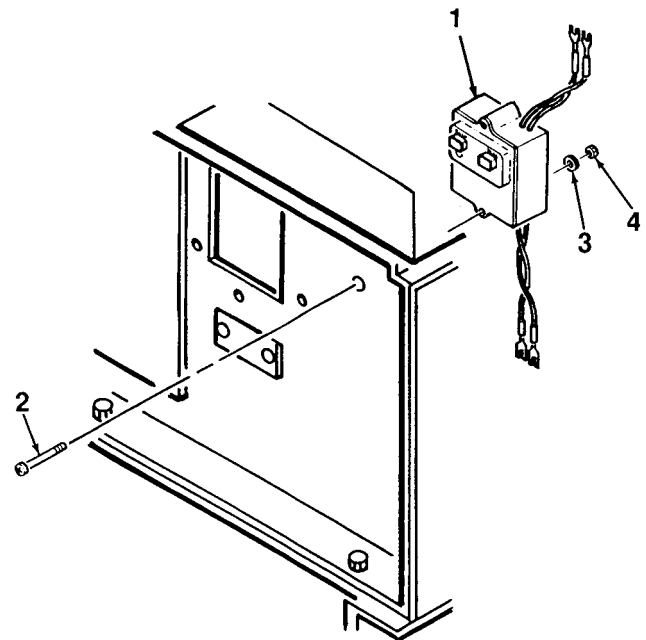

Figure 4-22. Ground Fault Circuit Interrupter
2. Tag and disconnect ground fault circuit interrupter (1, Figure 4-22) wiring from terminal block TB4.
3. Remove ground fault circuit interrupter (1) from control box by removing screws (2), washers (3), and nuts (4).
1. Mate ground fault circuit interrupter (1, Figure 4-22) to back of control box. Secure using screws (2), washers (3), and nuts (4).
2. Connect ground fault circuit interrupter (1) electrical wiring to terminal board TB4. Install cover onto TB4 (Para. 4-25).